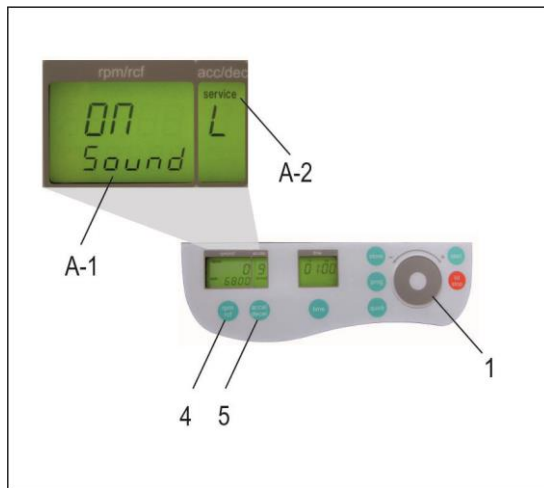

Figure 3
- All changed settings must be confirmed by the key "store" or "start" (9). A confirmation screen will appear with the word, "store", in the display "rpm/rcf" (A-1) - Only then the pre-selections are valid!
Proceed as illustrated, under point 1.9.1, to enter this program mode, press the key; "accel/decel" (5). In the display, "accel/decel" (A-2) flashes the word, "service". Select the letter, "L" with the control field (1). As a result, appearing in the display "rpm/rcf" (4), are the words, "On Sound". By pressing the key, "rpm/rcf" (4), the word "On" flashes, and the sound can be switched off with the control field (1), (see Figure 3).